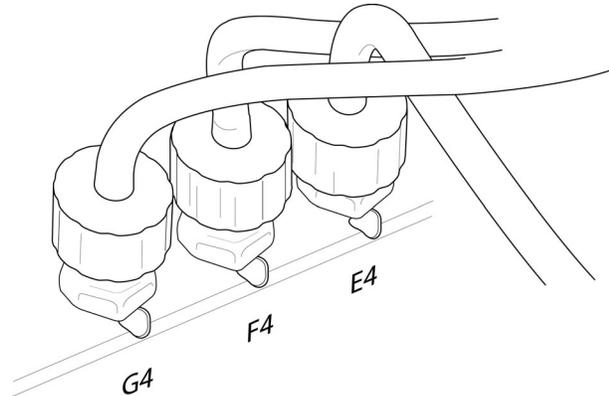

Figure 7.5 Port E4
2. Disconnect the luer fitting and tube from port E4 on the gas delivery engine. See figure 7.5. and tubing diagram in appendix B.